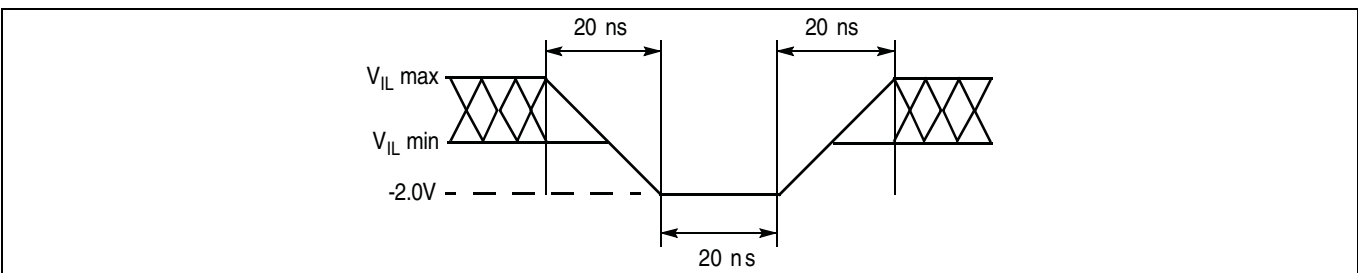
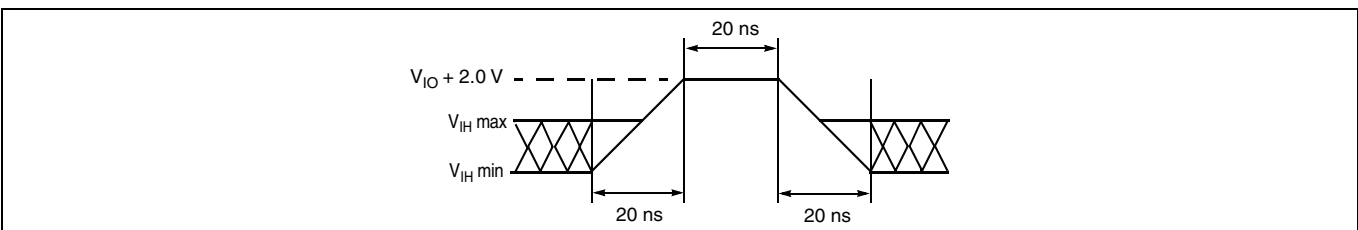

Figure 11 Maximum negative overshoot waveform
Figure 12 Maximum positive overshoot waveform
98. Minimum DC voltage on input or I/O pins is –0.5 V. During voltage transitions, input or I/O pins may undershoot V_{SS} to –2.0 V for periods of up to 20 ns. See Figure 11. Maximum DC voltage on input or I/O pins is V_{CC} + 0.5 V. During voltage transitions, input or I/O pins may overshoot to V_{CC} + 2.0 V for periods up to 20 ns. See Figure 12.